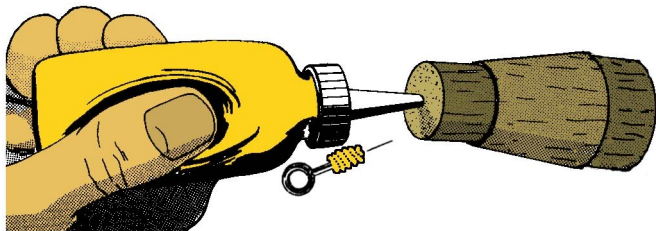

Figure 7
- **Step 11** Use the threads on the screw eye to cut a matching hole in the small shoulder end of the BTR-813. As shown in Fig. 7, force glue into the hole and coat the threads of the screw eye, then rethread the screw eye into the hole. Do not wipe away the excess glue. Allow the blob of glue about two hours to fully cure, with the transition in a vertical attitude, small end up.